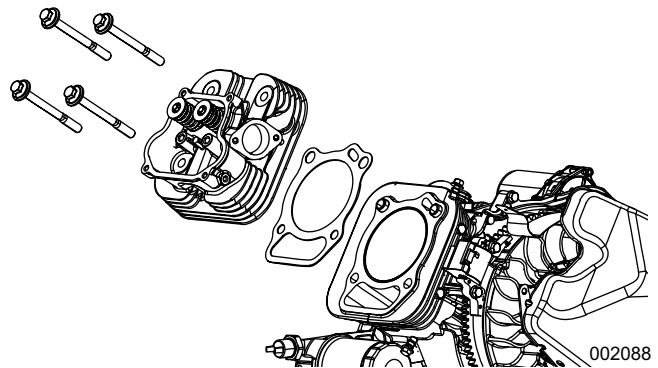

Figure 6-5. Cylinder Head Removal
6. See Figure 6-5. Remove cylinder head bolts, then the cylinder head and cylinder head gasket.